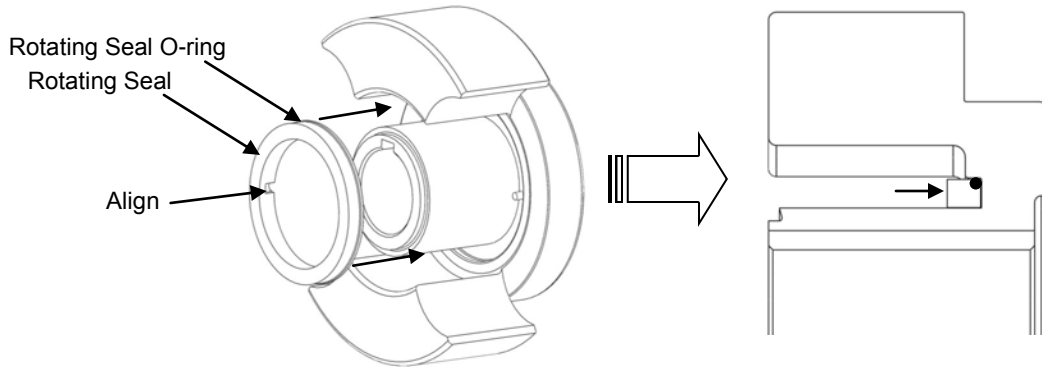

Figure 7: Inserting Rotating O-ring
4) Slide the rotating seal onto the rotor hub (Figure 7) making sure to align the slots on the seal to the drive pins in the rotor. Press the seal down until it seats inside of the rotor.